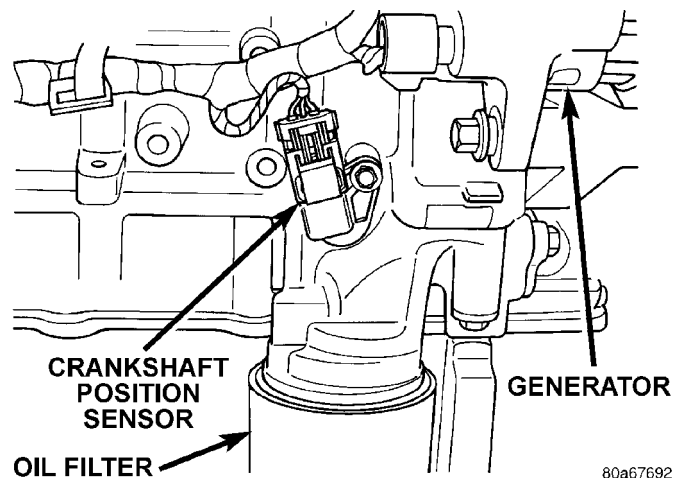

Fig. 45 Crankshaft Position Sensor
(18) Inspect the electrical connector at the crankshaft position sensor (Fig. 45).